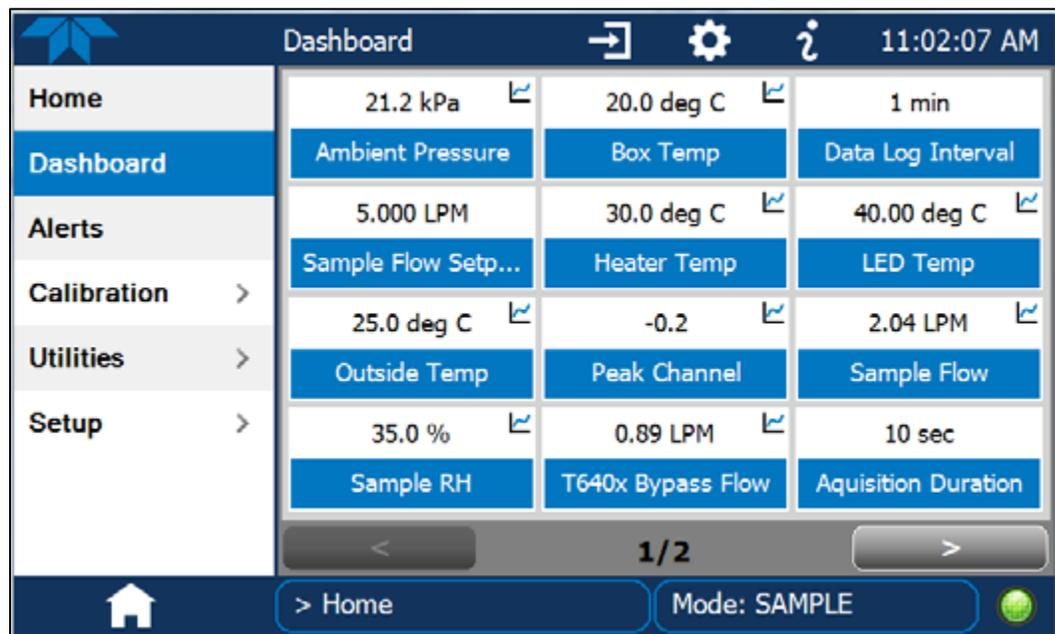

Figure AR-41. TAPI T640 Display Panel
8. Open the shelter panel to access the display panel (Figure AR-41).